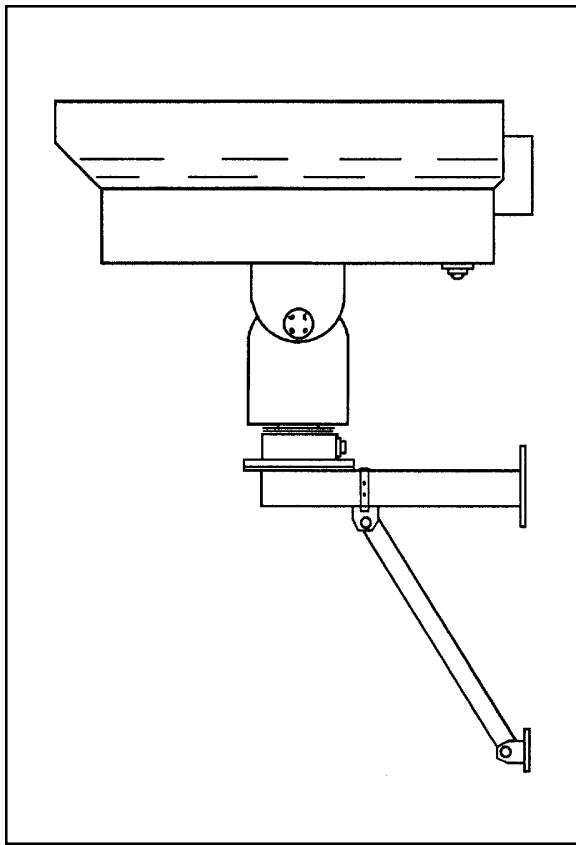

Figure 5. Enclosure with Pan/Tilt and WM2000 Wall Mount with ST1 Strut
7. Make all necessary electrical connections. Be sure to leave an adequate loop of cables between the enclosure and the pan/tilt, and the enclosure and the rigid mount to prevent binding and/or strain on the cables (see Figures 5 and 6).